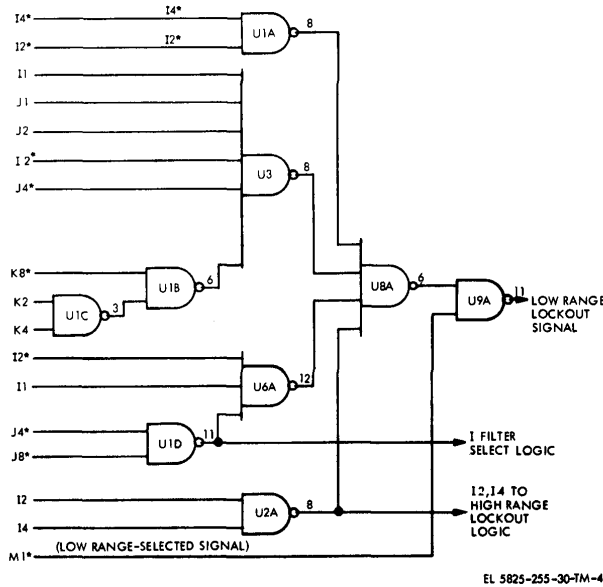

Figure 2-4. Low Range Lockout, Logic Diagram.
b. Low Range Frequency Inhibit Signals (fig. 2-4). Frequencies in the 000 to 199.5 kHz range are inhibited by signals 12' and 14\*, which are at a high level when the I switch is in positions 0 or 1. These two signals are Nanded to produce an inhibit signal at U1A pin 8. The logic for all the lockout gates is identical. They may be drawn differently to indicate functional use. Each NAND gate requires all high inputs to generate a low output. Each NOR gate requires all low inputs to generate a high output. A gate drawn as an OR gate with all inputs inverted, functions as a NAND gate. The other unwanted frequencies under 800.0kHz are inhibited in a similar way. The frequencies inhibited, the switch position signals used to generate